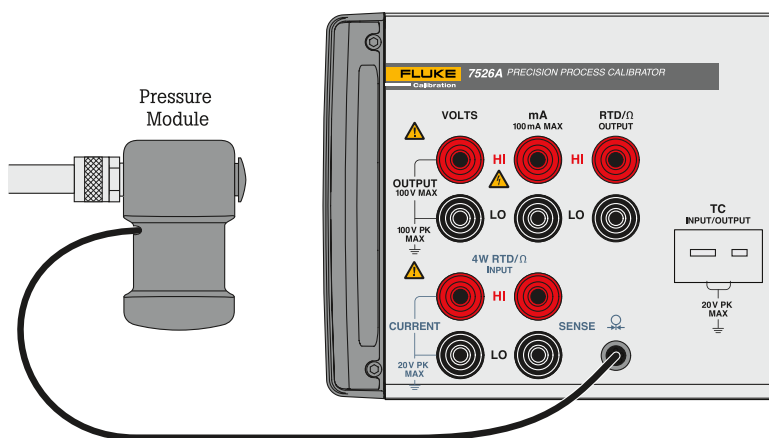

Figure 3. Pressure module connection.
1. Connect the Fluke 700 Series Pressure Module as shown in Figure 3.